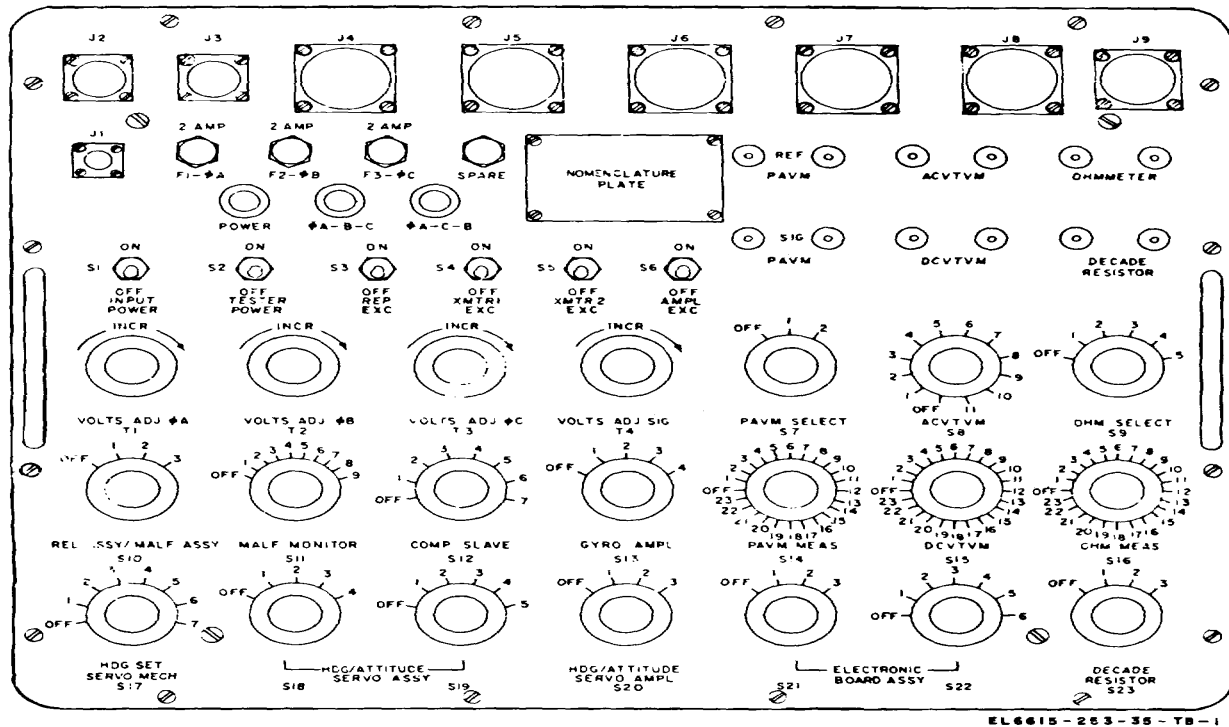

Figure 1. Module Test Set AN/ASM-297, front panel view.
b. *Unit Under Test.* Module Test Set AN/ASM-297 (fig. 1) will be referred to as the UUT (unit under test) throughout this bulletin.